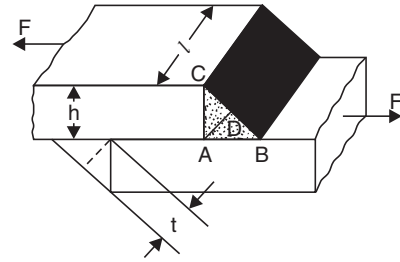

FIGURE 10.2
- (i) A 45° double fillet weld lap joint is shown in Fig. 10.2. This weld is subjected to tensile stress as well as shear stress. The tensile force acts on the vertical face AC and shear force acts on the horizontal face AB of the weld. At the throat AD , the minimum area of the weld is obtained. The tensile stress for the weld shown in Fig. 10.2 is given by